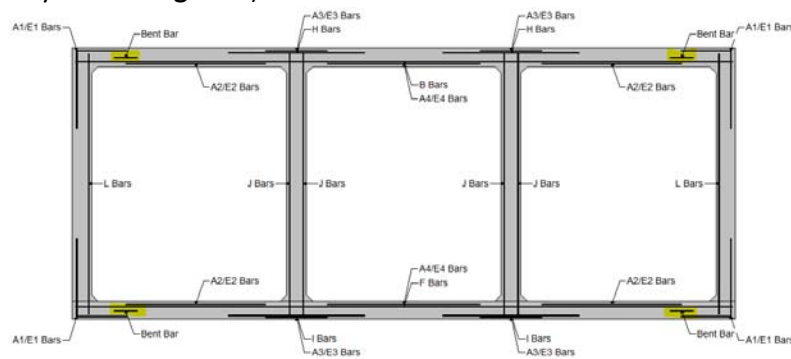

Figure 1 – Modeling Truss Bars in BrR
- For truss bars that begin at the corner and slope down at midspan, in addition to inputting the bars as straight length bars with fully developed ends, a straight, fully developed bar equal to the horizontal dimension of the bend may be input midway between the top and bottom straight bars (highlighted yellow in **Figure 1**).